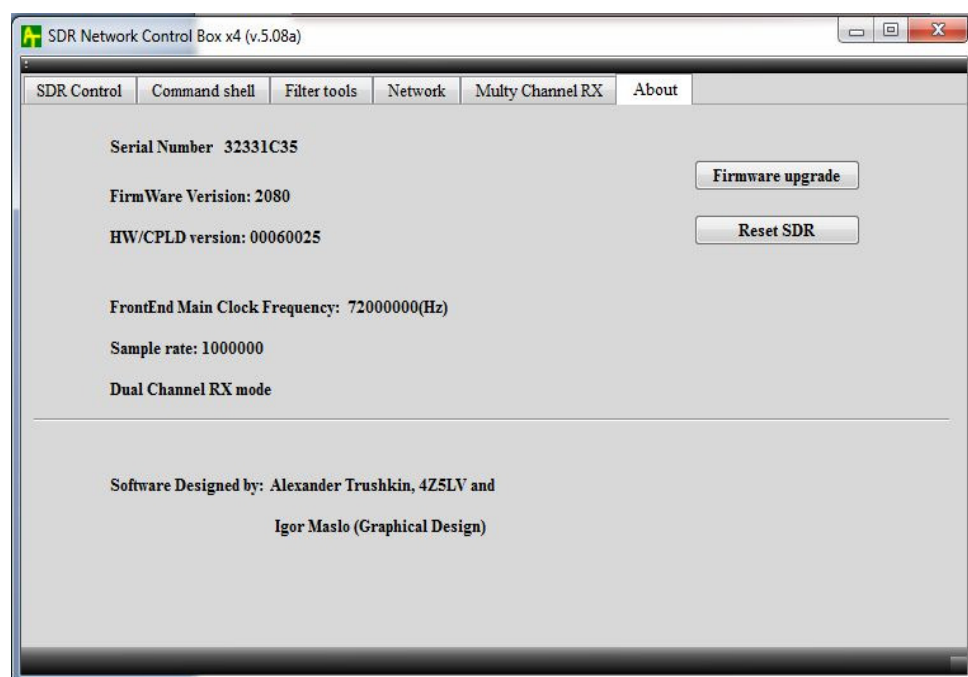

Figure 7.1 3 «About» tab, «Firmware Upgrade» button
- 3.1.2. There is new feature exists in AFE822x SDR-Net beginning boot-loader v2, firmware v204 and "SDR Network Control Box" v.23. User can enter AFE822x SDR-Net to firmware upgrade mode without any jumper, but using command that sent from "SDR Network Control Box" application. User need to press the button "Firmware Upgrade", that is located on the "About" tab (see Figure 7.1). This procedure allows user to do firmware upgrade without any box opening. Attention all network parameter in this case will be same as AFE822x SDR-Net as configured